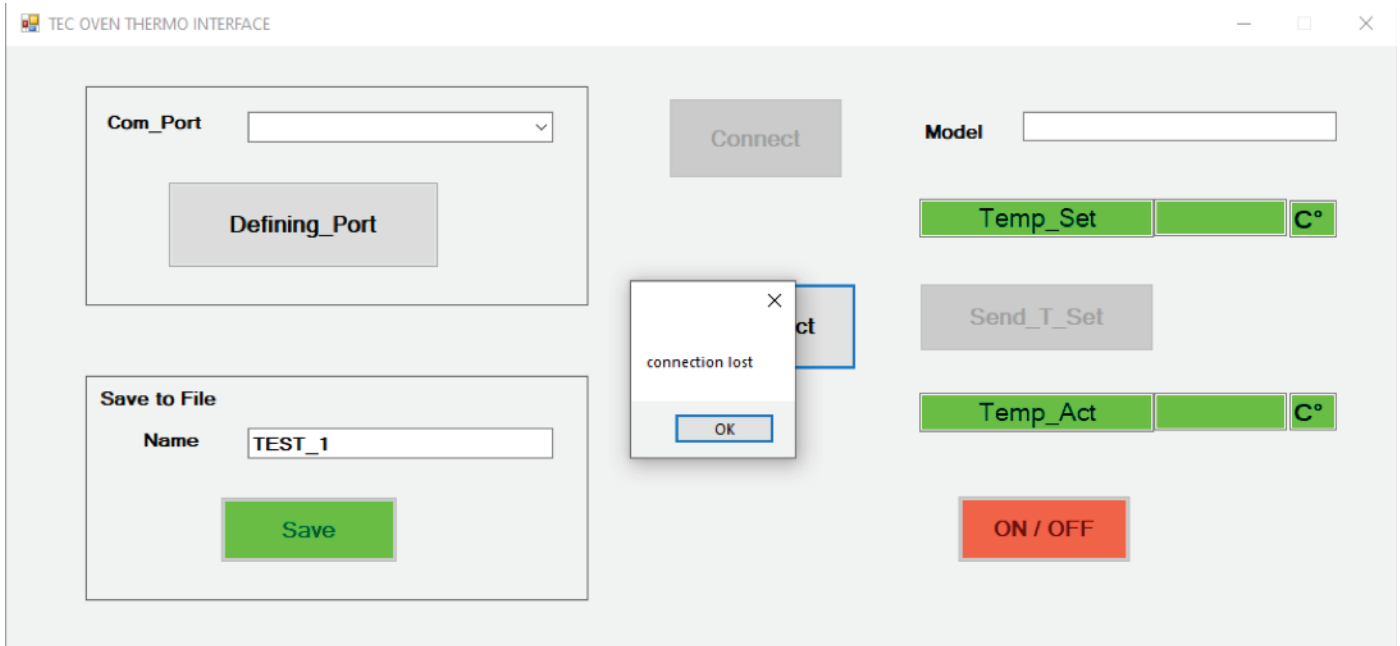

FIGURE 8. User Interface Software
- **'Disconnect'**: the button is used to switch to **STANDALONE** mode (if there is no need to use the **TEC OVEN INTERFACE** further), wherein a **'connection lost'** message appears. (figure 8)